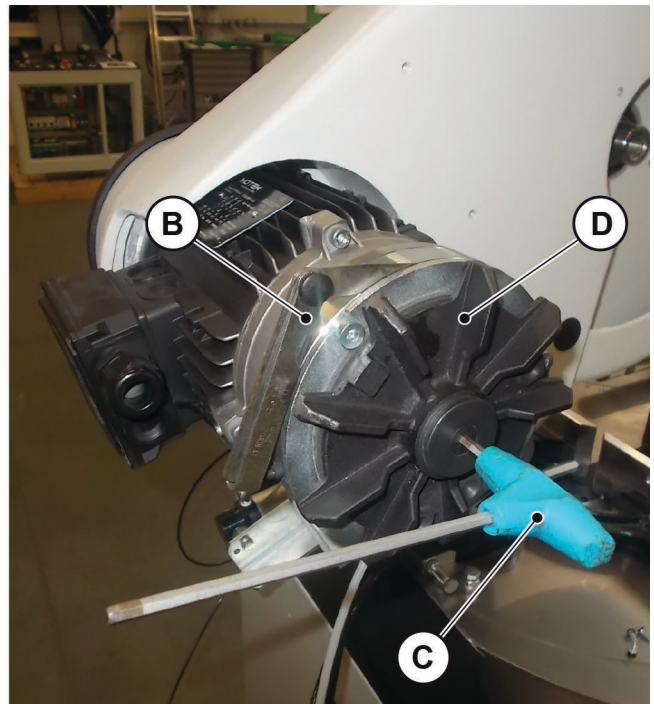

Fig. 09-05
- 2 Use the thickness gauge “B” (**Fig. 09-05**) to check that the air gap value is between 0.2 and 0.5 mm. If the air gap value exceeds the maximum limit of 0.5 mm, it is necessary to insert the Allen key “C” (**Fig. 09-05**) and turn it clockwise until the value is within the allowed limits.
- Annually or approximately every 40,000 blade start/stop cycles: check the thickness of the ferodo disc “D” (**Fig. 09-05**): if wear in the friction material is higher than 1.5 mm with respect to the original thickness (which is approximately 3 mm), the engine brake must be replaced. In this case it will be necessary to replace the whole self-braking motor.